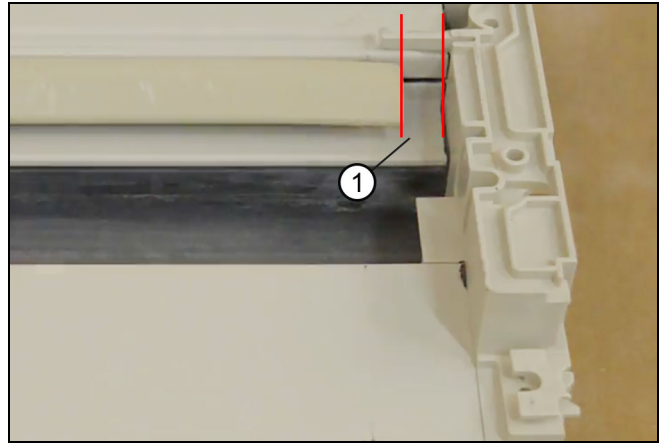

Figure 19
7. Insert weather strip 11/16" (17) from the corner key on each side. See Figure 19.